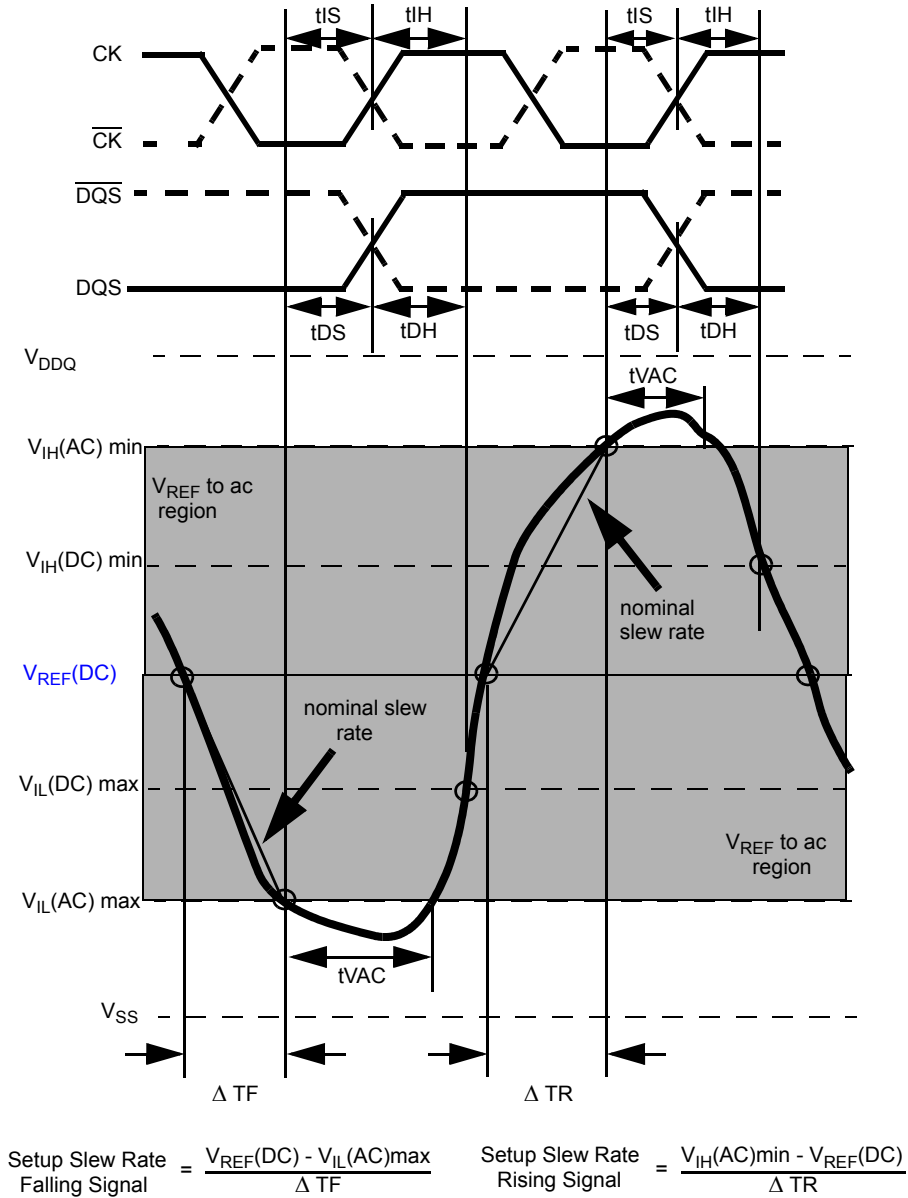

Figure 24. Illustration of nominal slew rate and t_{VAC} for setup time t_{DS} (for DQ with respect to strobe) and t_{IS} (for ADD/CMD with respect to clock).
Setup (tDS) nominal slew rate for a rising signal is defined as the slew rate between the last crossing of VREF(DC) and the first crossing of VIH(AC)min. Setup (tDS) nominal slew rate for a falling signal is defined as the slew rate between the last crossing of VREF(DC) and the first crossing of VIL(AC)max (see Figure 24). If the actual signal is always earlier than the nominal slew rate line between shaded 'VREF(DC) to ac region', use nominal slew rate for derating value. If the actual signal is later than the nominal slew rate line anywhere between shaded 'VREF(DC) to ac region', the slew rate of a tangent line to the actual signal from the ac level to dc level is used for derating value (see Figure 26).